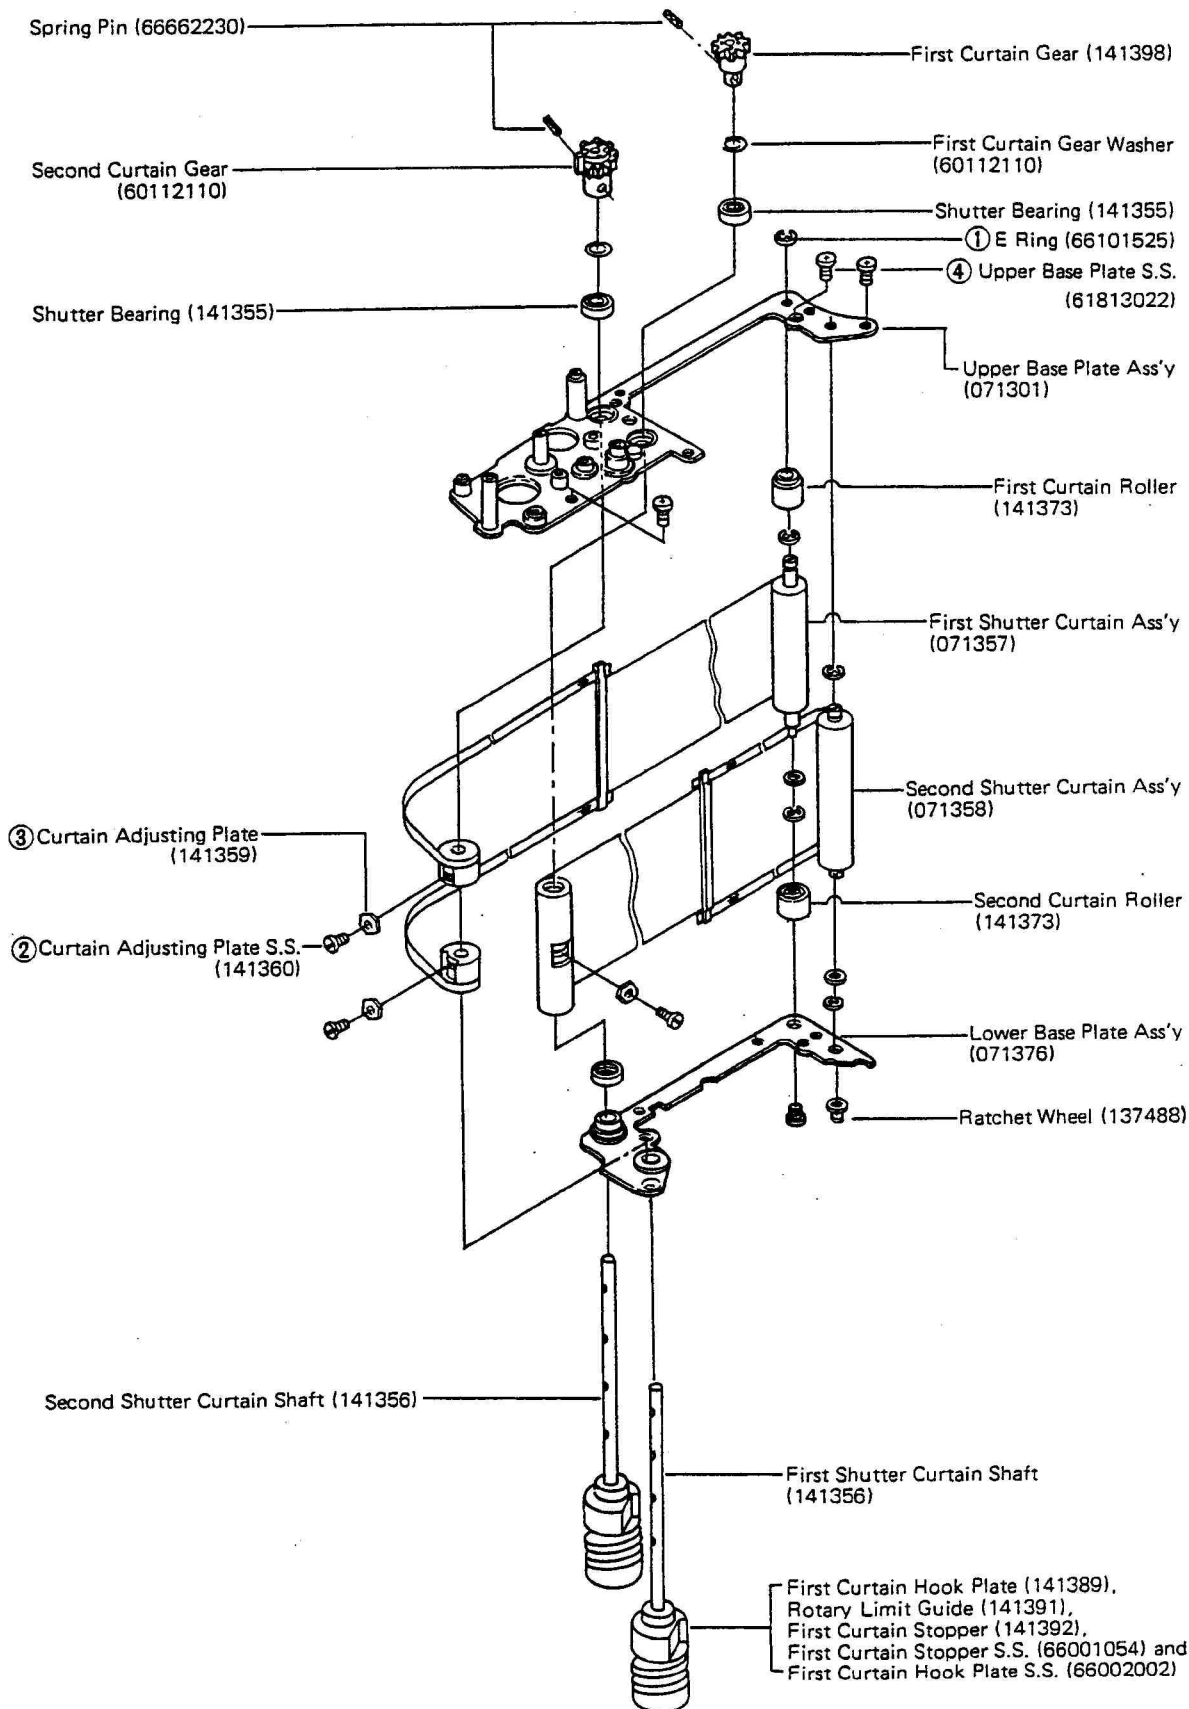
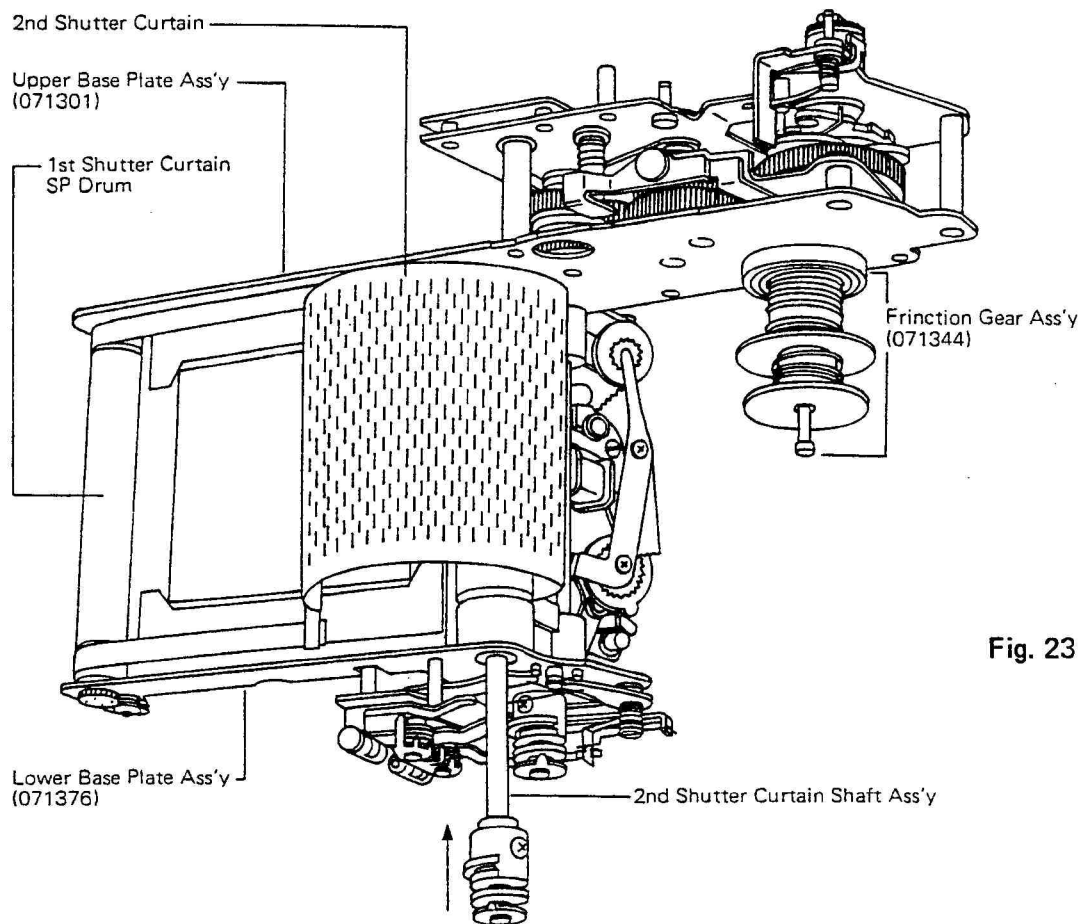
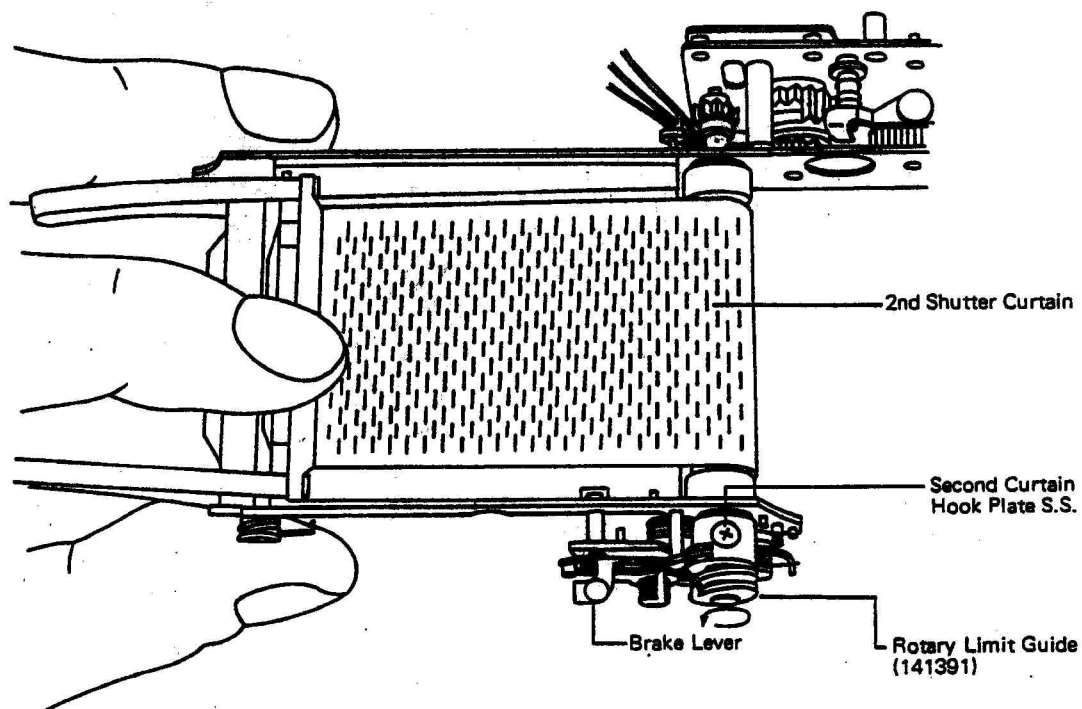

Fig. 22
Fig. 23
Fig. 26
- (1) Disassembling of 1st & 2nd shutter curtain ass'y from the Shutter Mech. Ass'y (This operation can be performed after completion of **"1. DISASSEMBLING OF THE EXTERIOR PARTS"** on page 2, **"2. DISASSEMBLING OF THE MOUNT BASE ASS'Y"** on page 4 and **"4. DISASSEMBLING OF SHUTTER MECH. ASS'Y FROM THE CAMERA BODY"** on page 9.)
- a) Remove the Spring Pin (66662230x2) from the First Curtain Gear (141398) and Second Curtain Gear (141399). (fig. 22)
- c) Remove the respective parts ①~③ shown in (fig. 22) in numerical order. (To remove ② and ③ from the 2nd shutter curtain shaft (141356) rotate the Rotary Limit Guide (141391) about 90° counterclockwise.)
- d) Remove ④ Upper Base Plate S.S. (61813022x1). (fig. 22)
(2) Reassembling of the 2nd Shutter Curtain Ass'y to the Shutter Mech. Ass'y.
- a) Fix the 2nd Shutter Curtain SP Drum between Upper Base Plate Ass'y (071301) and Lower Base Plate Ass'y (071376) properly. (fig. 22) or (fig. 23)
(At this stage, the Second Curtain Gear should not be fixed to the 2nd Shutter Curtain Shaft with the Spring Pin yet.) (fig. 23)
- d) Rotate the 2nd Shutter Curtain Shaft Ass'y counterclockwise until it stops and engage the Brake Lever to the ditch of Rotary Limit Guide (141391). (fig. 26)
- f) Place and hold the 2nd shutter curtain as shown in (fig. 26) and fix the 2nd Shutter Curtain Drum to the 2nd Shutter Curtain Shaft with a Curtain Adjusting Plate (141359) and Curtain Adjusting Plate S.S. (141360) (fig. 22) or (fig. 23)
- g) Fix the Ratchet Wheel and turn it 2 turns. (fig. 22)
(3) Reassembling of the 1st Shutter Curtain Ass'y to the Shutter Mech. Ass'y.
- a) Cock the shutter by turning the Friction Gear Ass'y (071344) clockwise. (fig. 23)
- The 2nd shutter curtain position adjustment can be performed by changing the direction of Curtain Adjusting Plate (141359). (fig. 22)
- The 1st Shutter Curtain position adjustment can be performed by changing the direction of 2 x Curtain Adjusting Plates (2x141359). (fig. 22)